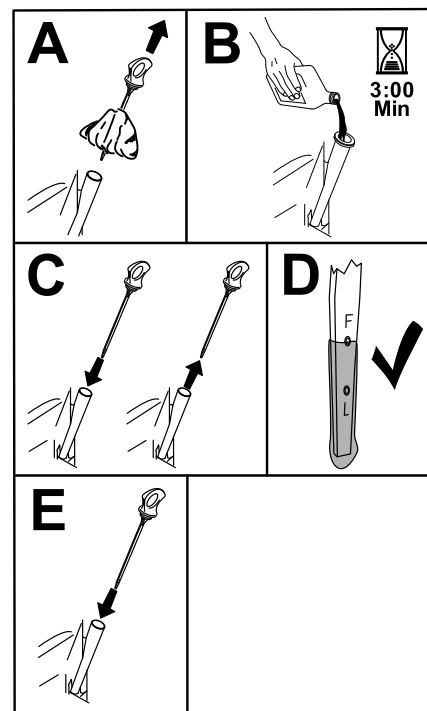

Figure 41
6. Slowly pour approximately 80% of the specified oil into the filler tube and slowly add the additional oil to bring it to the Full mark (Figure 41).